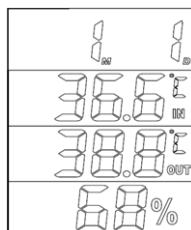

Fig. 3
5. Press the **MODE** button to advance to *month* and use the **ADJ** button to increase value (see Fig. 3).